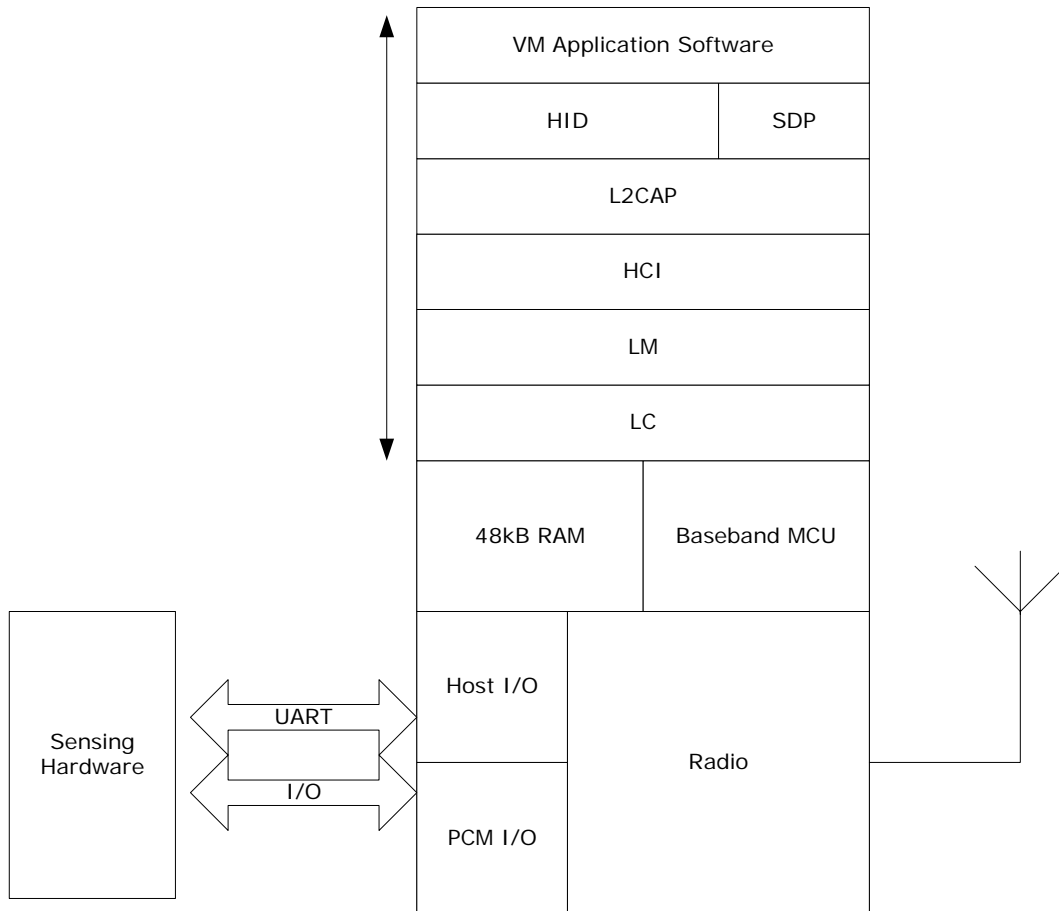

Figure 27: WRAP THOR HID stack
In figure 27, this version of the stack firmware shown requires no host processor (but can use a host processor for debugging etc.). All software layers, including application software, run on the internal RISC processor in a protected user software execution environment known as a Virtual Machine (VM).